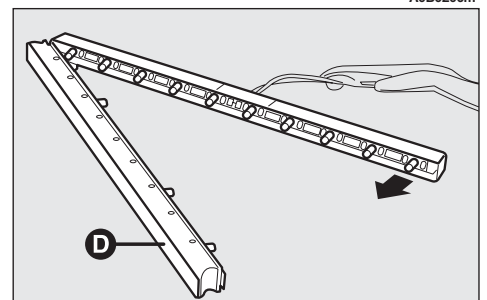

fig. 51
- Remove the transparent cover (D-fig. 51) and replace the bulb concerned.